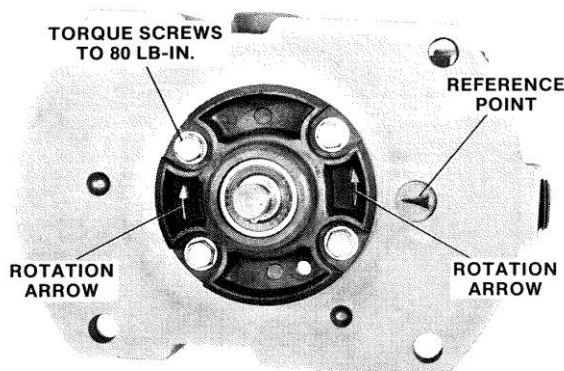
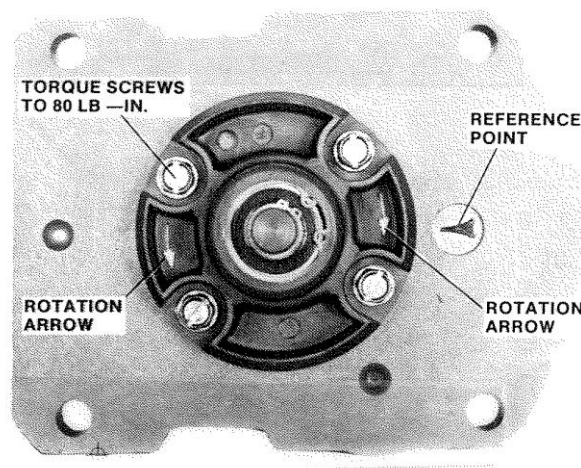

Figure 2-5. Setup for Clockwise Rotation of the Governor Drive Shaft
Figure 2-6. Setup for Counterclockwise Rotation of the Governor Drive Shaft
4. Align the arrow on the pump housing with the reference point on the governor case. Figure 2-5 shows the setup for clockwise (cw) rotation of the governor drive shaft, and Figure 2-6 shows the setup for counterclockwise (ccw) rotation of the governor drive shaft.
As seen in Figure 2-5, a TG described as having a “clockwise rotation” is set using the arrow that points *counterclockwise* next to the reference point on the governor case. And a TG described as having a “counterclockwise rotation,” as in Figure 2-6, is set using the arrow that points *clockwise* next to the reference point on the governor case. This is because normal rotation is stated viewing the governor from the top, whereas the governor is viewed from the bottom while changing rotation.